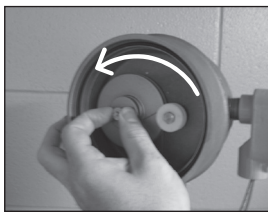
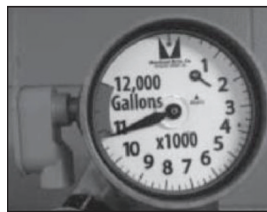
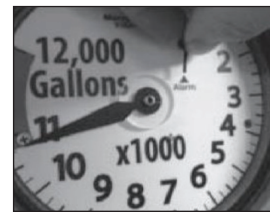

Figure 2: Raising the float with thumb nut.
Figure 3: Alarm set point.
Figure 4: Setting Alarm pointer.
11. To calibrate the alarm setting, rotate the thumb nut counterclockwise (when facing rear of gauge, see Figure 2) to the desired alarm set point (see Figure 3). This will raise the float assembly out of the liquid. Be careful to maintain a firm grasp of the thumb nut to prevent free fall of the float. While holding the thumb nut steady, adjust the Alarm hand by pulling the alarm pointer out and rotating it to the point of the triangle (see Figure 4). Once set, carefully allow the float to drop by turning the thumb nut clockwise (when facing the rear of the gauge).